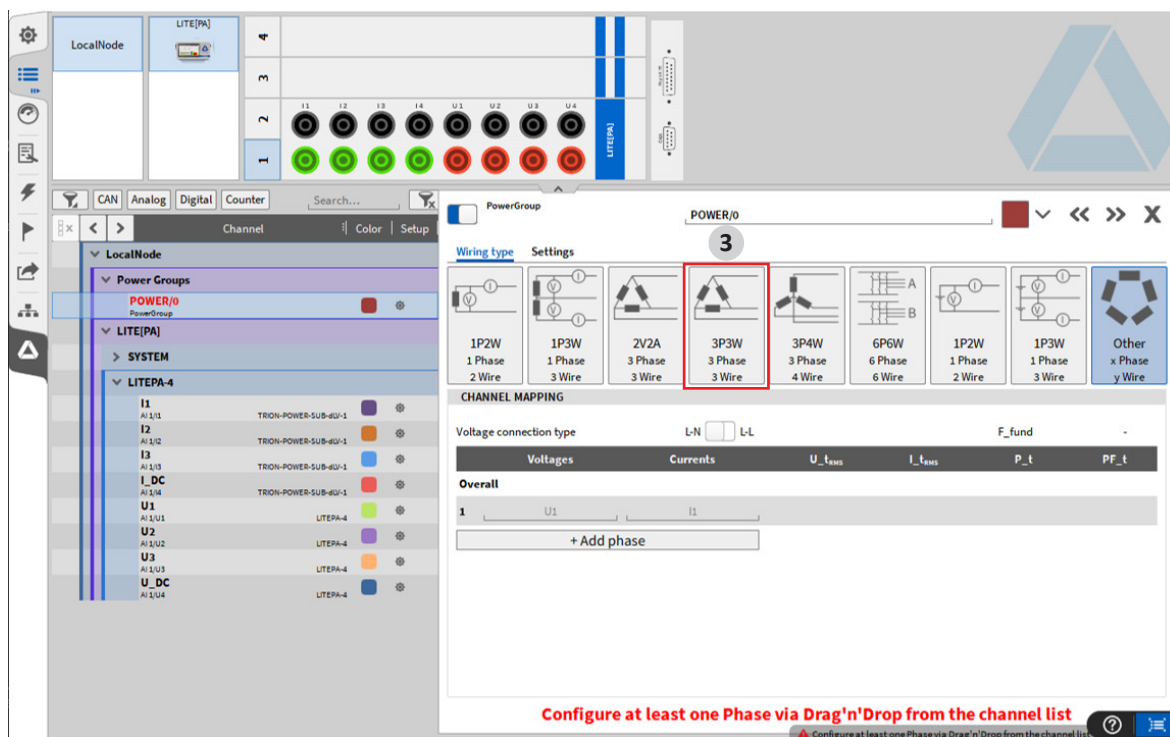

Fig. 19: Create a Power Group without channel pre-selection (2)
3. Choose the wiring type fitting your application, e.g. three phase, three wire, in line-line configuration, see ③ Fig. 19.